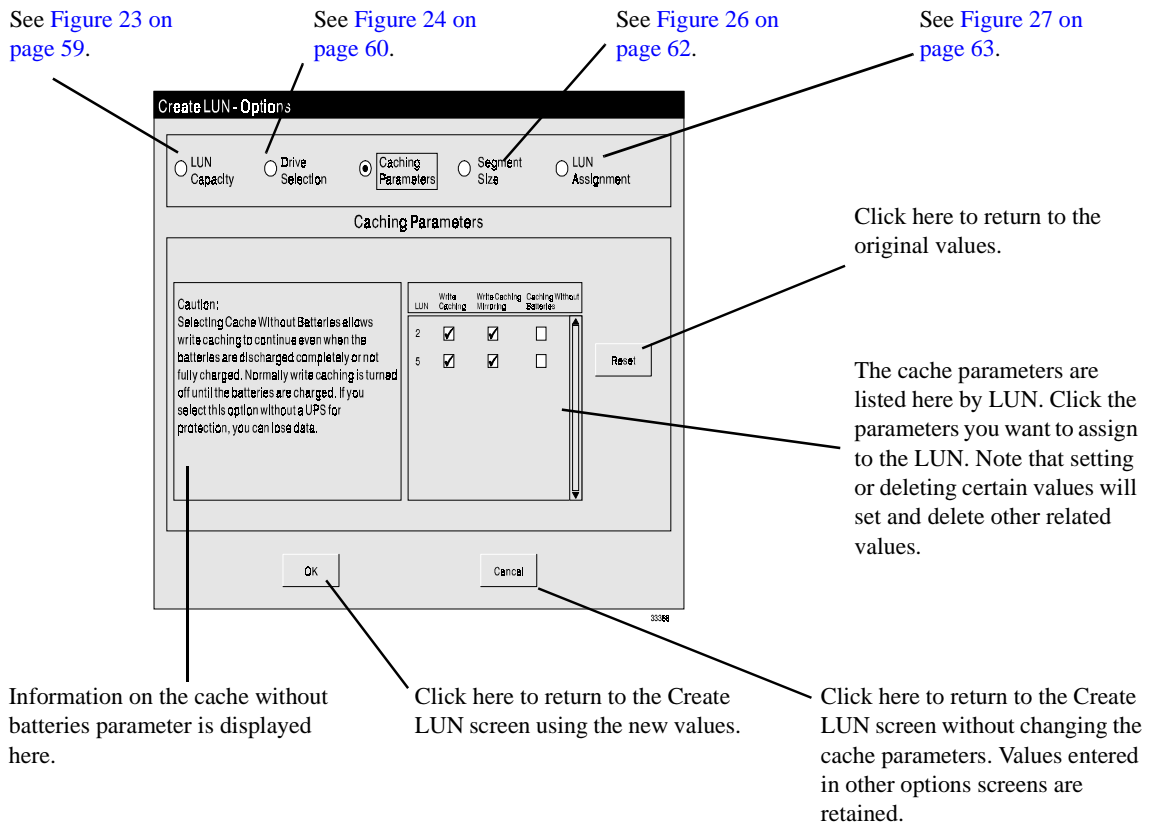

Figure 25. Cache Parameters Screen
- The caching parameters (see Figure 25 on page 61).
See Figure 25 on page 61.